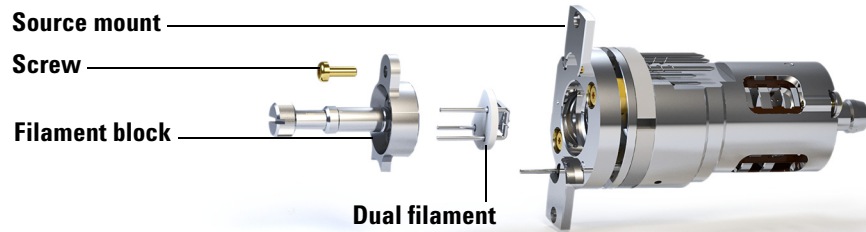

Figure 54 Replacing the dual filament
- 4 Remove the screw securing the filament block to the source mount. (See Figure 54 on page 169.)
- 2 Insert the 3 pins on the dual filament through the rear of the filament block. (See Figure 54 on page 169.)